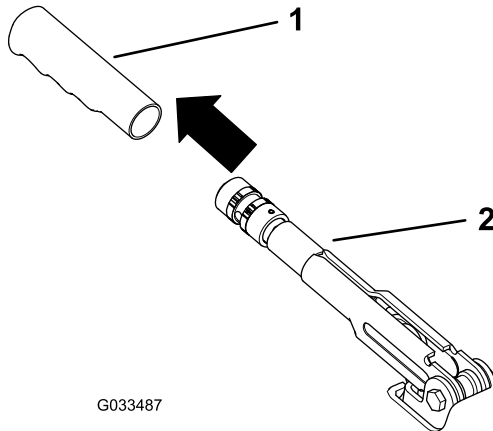

Figure 55
1. Remove the rubber grip from the parking-brake lever (Figure 55).